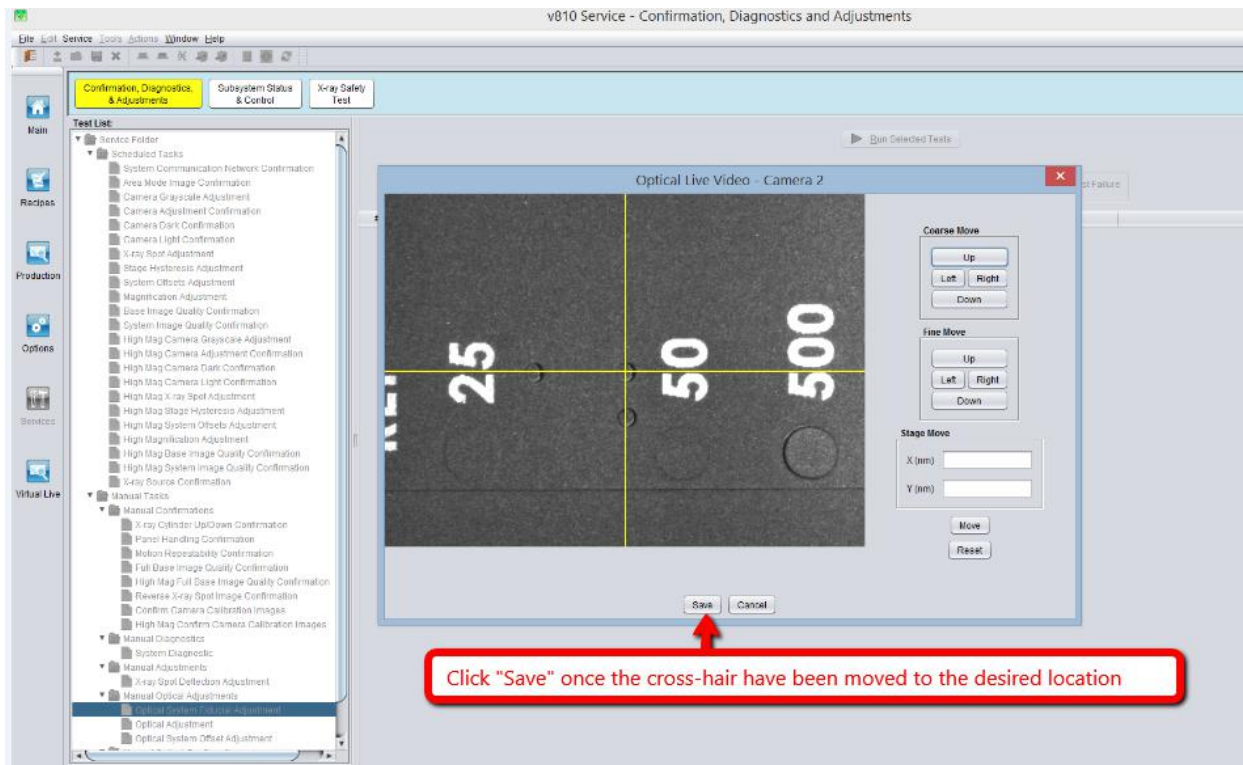

Figure 14 Rear PSP Fiducial Point choosing
13. Move the cross hair to the location shown in the Figure 14. Once the location has been confirmed, click save as shown in the Figure 14.